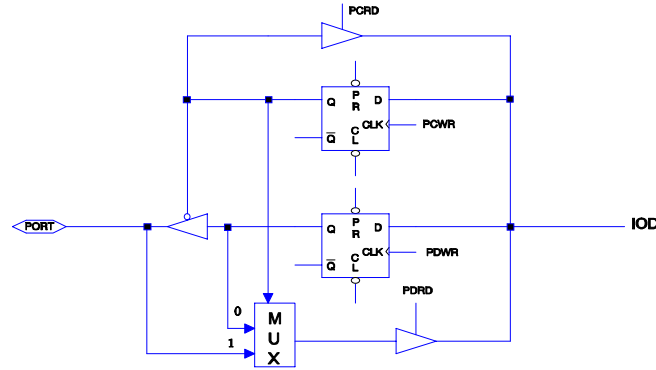

Fig. 6 The circuit of I/O pin and I/O control register
- The equivalent circuit for a single I/O pin is shown in Fig. 6.